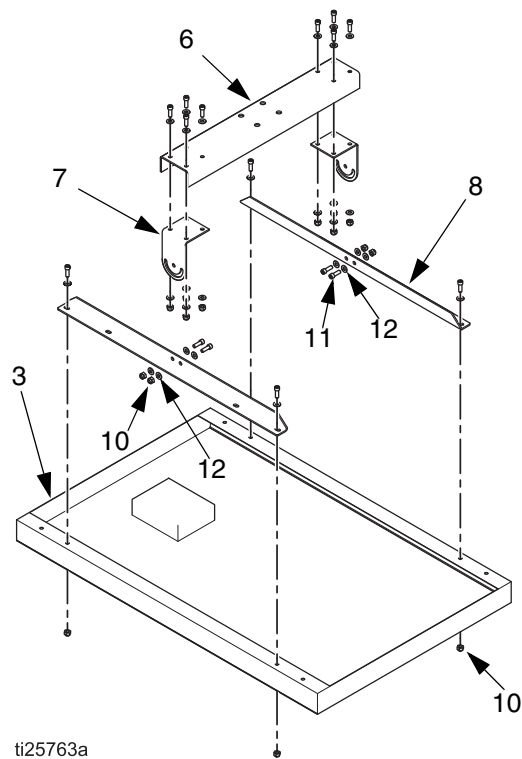

FIG. 3 Rear Solar Panel Bracket Assembly
1. Attach the panel mount adjusters (7) to the solar pole mount hanger (6) with the included screws (11), washers (12), and lock nuts (10). See FIG. 3.